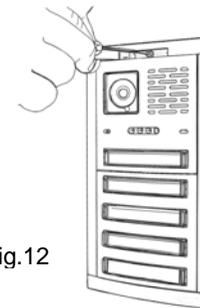

Fig.12
4.11 FERMER LA PLATINE EN VISSANT LA VIS SUPERIEURE (FIG. 12 PAGE 18).